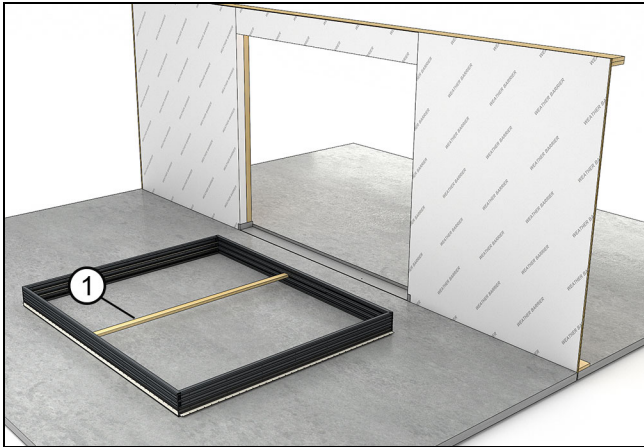

Figure 51
1. Insert a "story pole" between the top of the sill and the head jamb track. Refer to field calculations for the proper length of story pole. See Figure 51.